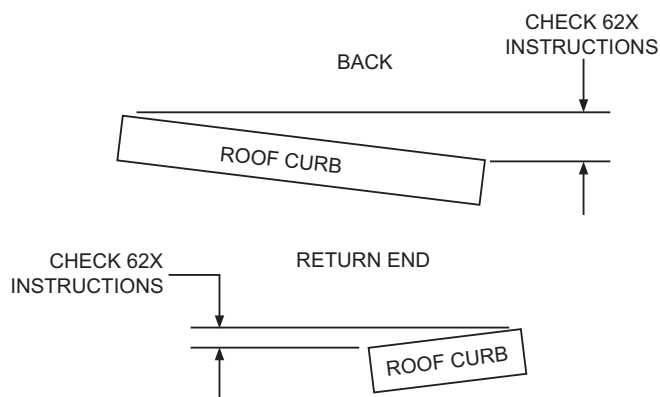

Fig. 4 — Unit Leveling Tolerances
4. Square up roof curb and position over duct openings cut in roof. Level the roof curb by placing shims under the bottom flange of the curb as needed. See Fig. 4 for unit leveling illustration.